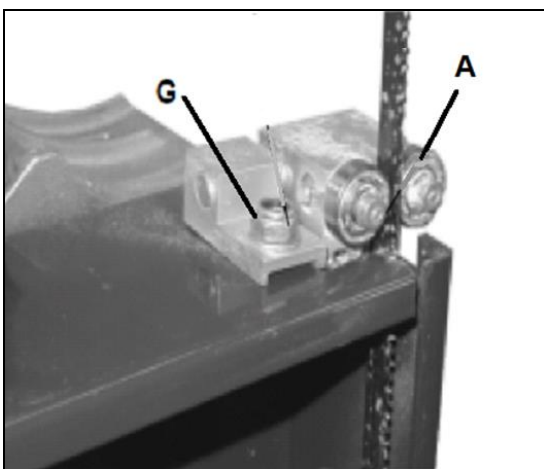

Fig 27
Loosen the hex nut (G, Fig 27) and position the guide assembly forward/ backward so that the teeth keep a distance of appr. 2mm to the lateral guide rollers (A).